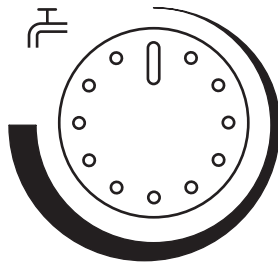

Fig. 4
8. The pre-heat feature will not operate if the DHW Temperature Control is turned fully anticlockwise (Fig. 4). In this position the boiler will operate as a conventional combination boiler, providing hot water at 50° C.